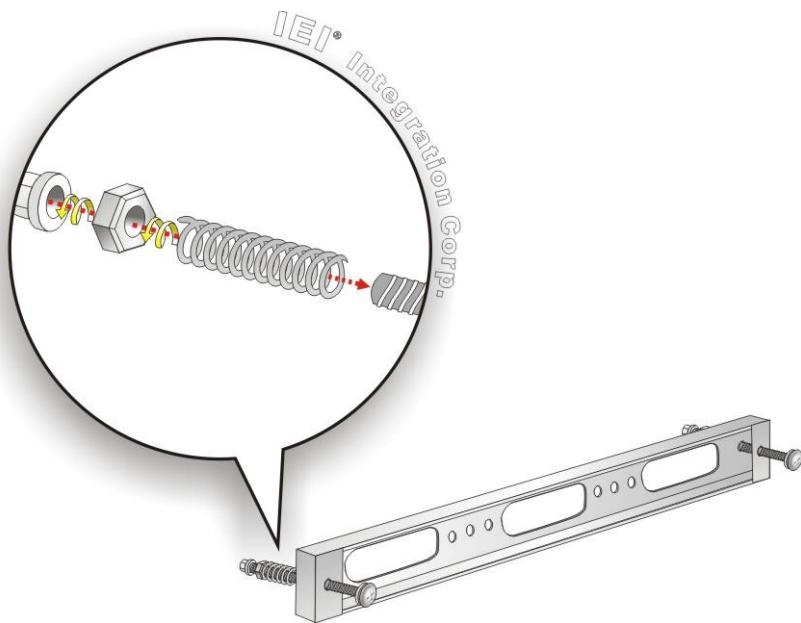

Figure 3-15: Rack Mounting Kit Installation
Step 2: Insert a M5*50 screw into the screw hole on the side of the rack mounting bracket. Then, install the following components onto the screw in sequence. See **Figure 3-15**.